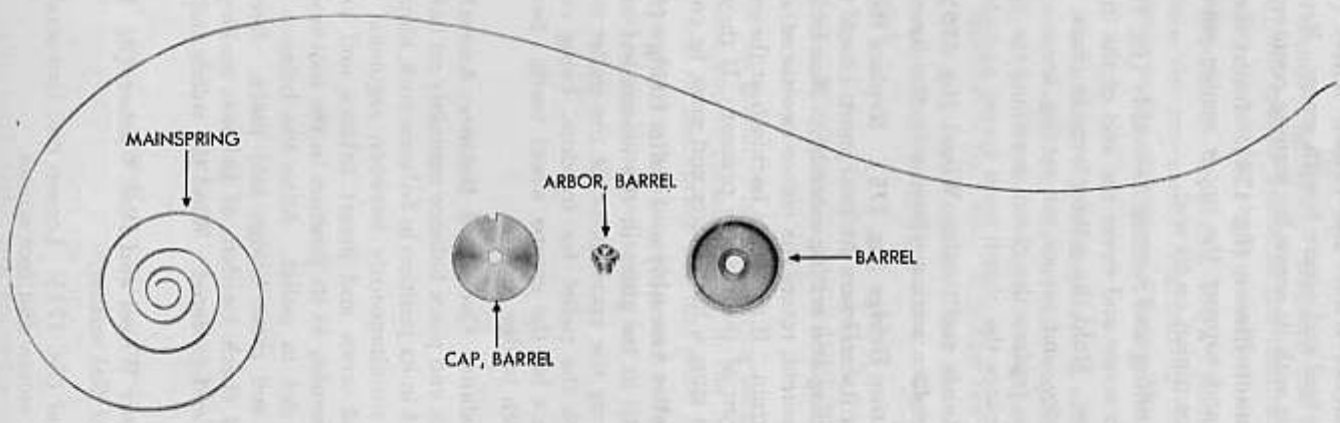

Figure 185 — Bulova Wrist Watch — Mainspring Barrel Assembly Disassembled
u. Remove Mainspring (fig. 185). Hold the mainspring barrel between the thumb and index finger, while the barrel is supported on the anvil, and place a screwdriver of the proper size within the slot provided in the cap and pry off the cap. Turn arbor counterclockwise until it disengages from mainspring; then lift out arbor. Grasp inner coil of mainspring with tweezers and slowly uncoil it out of mainspring barrel.